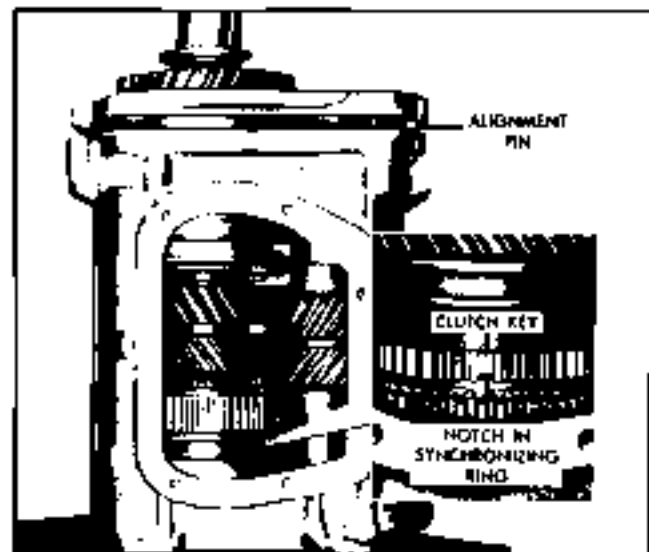

Fig. 7D-25 Installing Mainshaft Assembly
20. Align countergear with shaft in rear and hole in front of case and press countershaft into case (pushing Tool J 22379 out front of case) until flat on shaft is flush with rear of case. Be sure thrust washers remain in place (Fig. 7D-23).
21. Attach a dial indicator as shown in Fig. 7D-24 and check end play of the countergear. If end play is greater than .025", new thrust washers must be installed.
22. Install cage and the seventeen (17) roller bearings into main drive gear, using heavy grease to hold the bearings and cage in place.